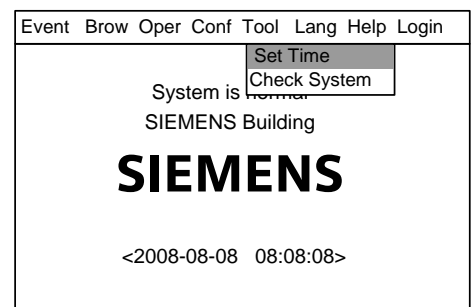
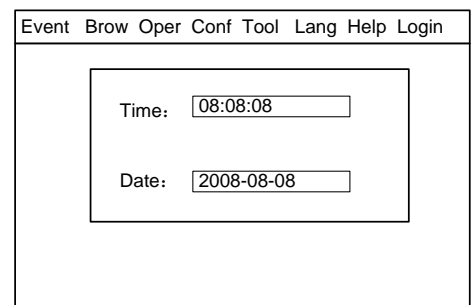

Fig.20-2
Fig.20-3
2. Press "→" to pop out the "Tool" submenu (Fig.20-2). Select "Set Time" and press "OK" to enter the time setting interface (Fig.20-3).